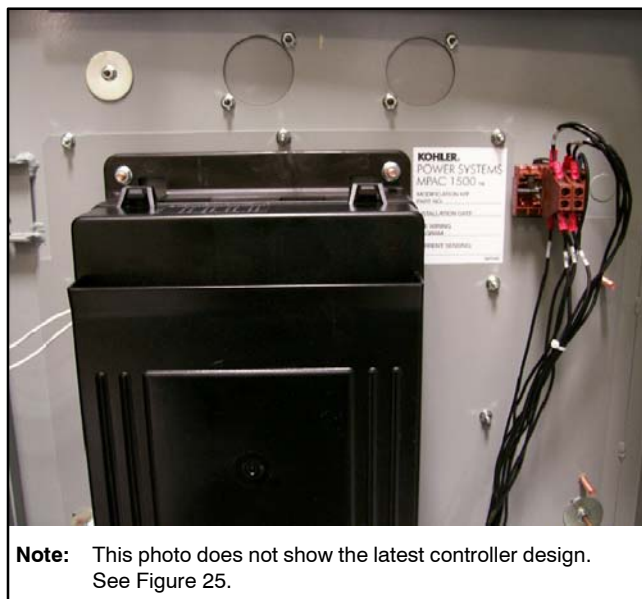

Figure 56 Decal GM70205 Location
48. Verify that the surface is clean and dry, and place decal GM70205 on the mounting plate as shown in Figure 56.